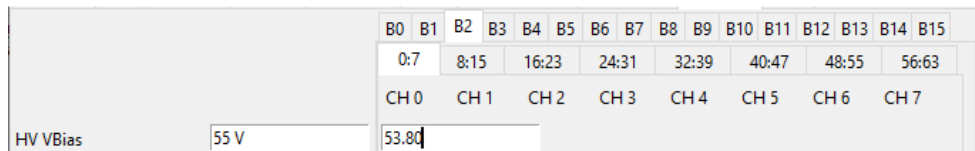

Fig. 3.25: Example of "HV VBias" parameter setting for a particular board.
The command defines the value for the bias voltage common to all channels. The available values range from 20.00 (V) to 85.00 (V). Board Tabs as those shown in **Fig. 3.25** are present in top left part of the HV_bias Tab and allow the user to define a different value of the **HV VBias** parameter for each board. For instance, the example reported in **Fig. 3.25** shows that a value of the **HV VBias** parameter of 53.80 V is set only for Board 2.
- **Vmon**: The HV measured value provided by the A7585D power supply to all channels of the board selected via the Board Tab (see **Fig. 3.25**). The value does not take into account the voltage provided by the internal Citiroc-1A DACs.
By pressing the HV-ON button  the HV ramp up of the board selected via the proper Board Tab (see Fig. 3.25) starts. During the ramp up, the user can monitor the HV and current values by looking at the Status Bar or the Vmon and Imon values (see Sec. 3.4). To turn off the HV, the same button has to be pressed by the user.